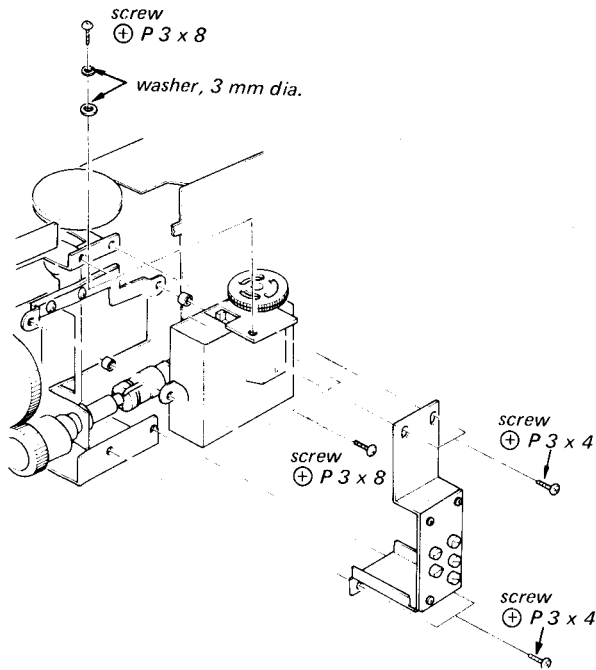

Fig. 2-3.
3. Set the FM front end with three screws. See Fig. 2-3. above.